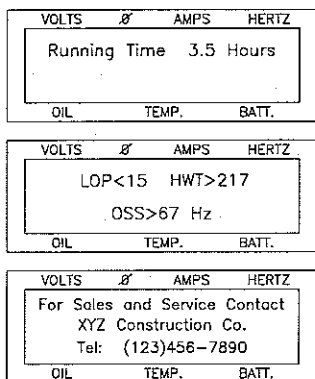

Fig. 5 Alternate LCD Display screens
- Depressing the "RTM" button will display the accumulated Running Time (Fig. 5). Continuing to hold the button will scroll shutdown set-points and sales and service information.